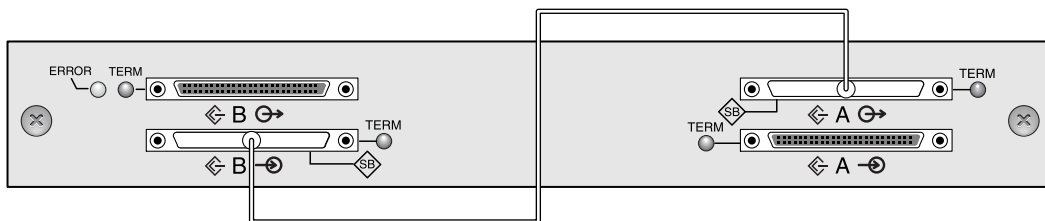

FIGURE 4-11 Required Jumper Cabling for a Single-Bus Expansion Unit
2. To configure an expansion unit as a single-bus configuration, connect the SCSI jumper cable between SCSI ports (lower left and upper right ports), as shown in FIGURE 4-11. Tighten the cable jack screws with six full clockwise turns to ensure proper connection and operation.